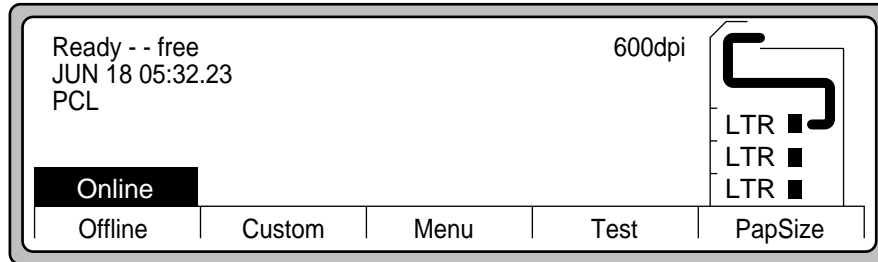

Figure 4-47 Ready (Main Screen)
11. When the printer has finished initializing, you will see the **Ready** message, as shown in Figure 4-47.